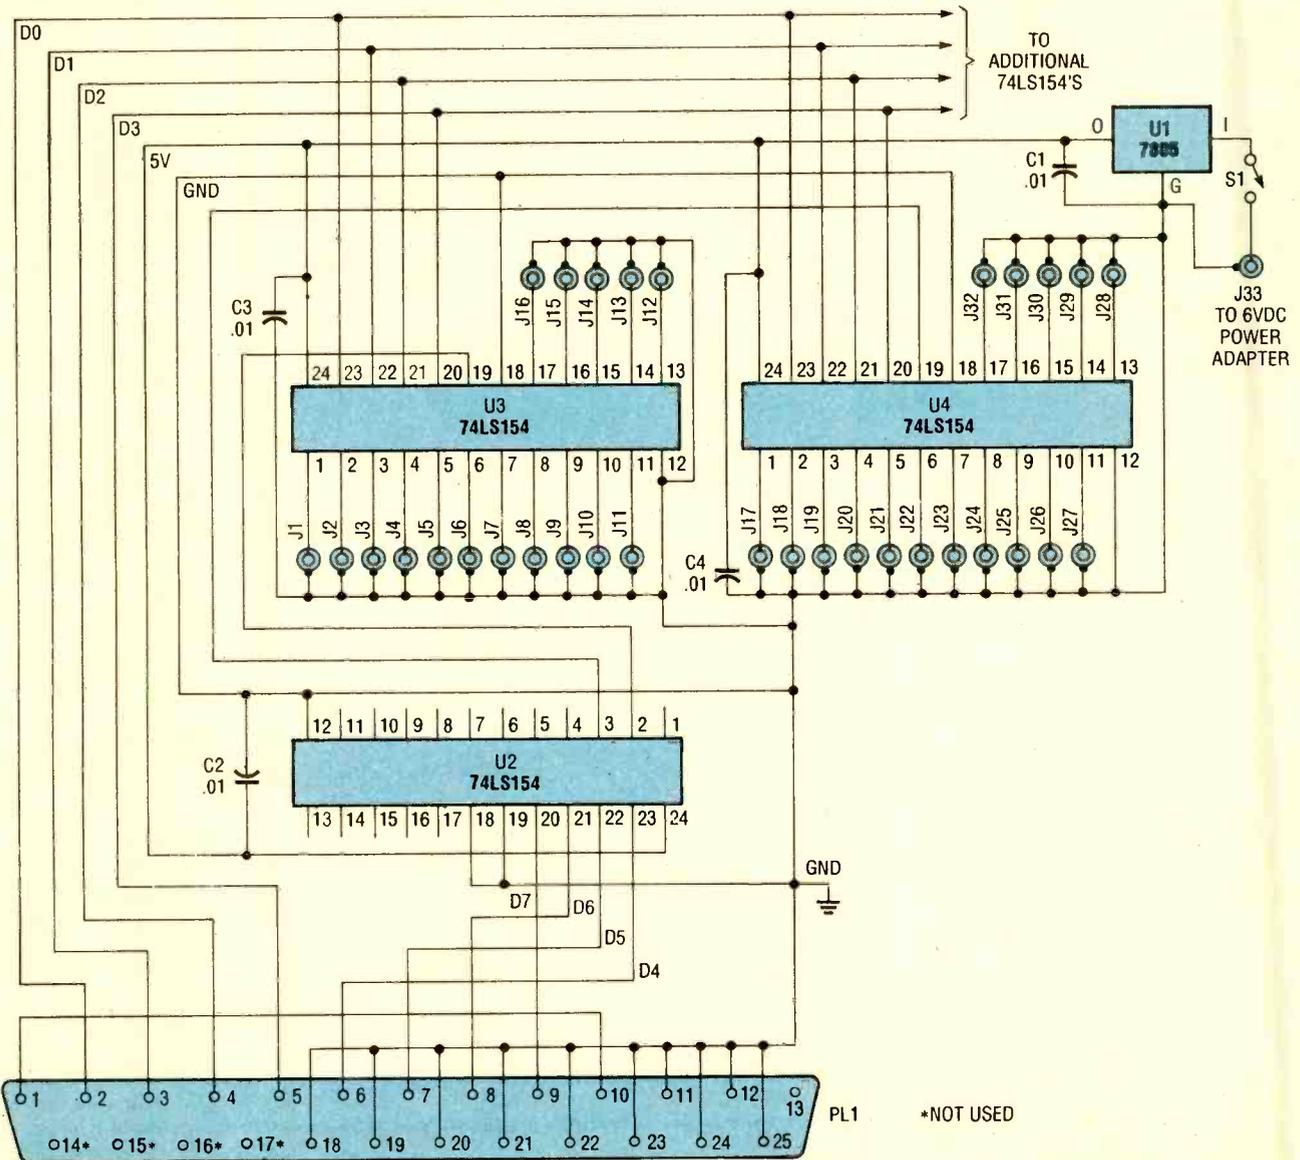

Fig. 2. This is the schematic diagram of the Portmaster. Despite its versatility, it doesn't take many parts at all to build the circuit.
**Handling 8-Bits with 4-Bit IC's.** So how do chips that handle 4 bits deal with the 8 bits from a computer? To help answer that question, take a look at Fig. 2. The data bits, D0-D7, come from the computer via pins 2-9 on a DB-25 connector, PL1. When they arrive at the Portmaster, they are separated into two groups: a low nibble (D0-D3) and a high nibble (D4-D7).